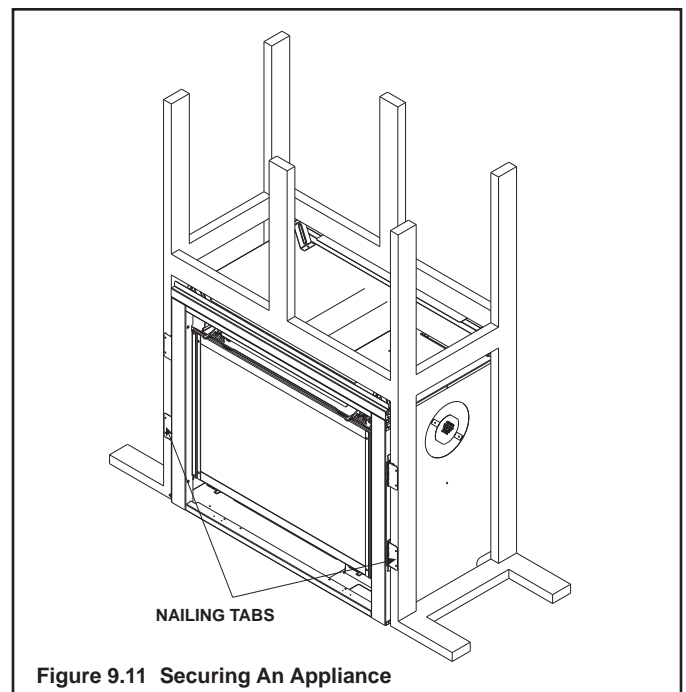

Figure 9.11 Securing An Appliance
8. Secure the appliance to the framing by using nails or screws through the nailing tabs. It is acceptable to use plumber strap to secure the unit to the framing if necessary. See Figure 9.11. Be sure to maintain all clearances to combustible material.